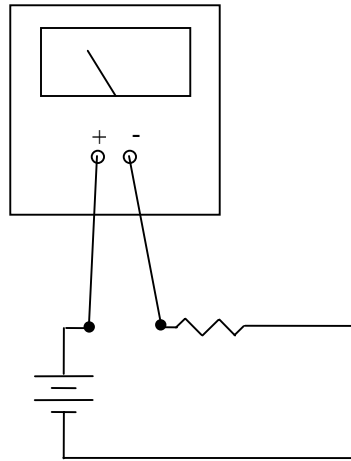

Figure 4: To make a measurement of the current drawn by a circuit, the meter must be placed in series with the circuit
In contrast to making voltage measurements, for which the multimeter was connected in parallel with the circuit, current measurements require the meter to be placed in series with the circuit. This is diagrammed below in Figure 4.
Notice in Figure 4 that the portion of the circuit between the two probes has been removed. The idea is to make the current flow through the meter so it can be measured, and then return it to the circuit. For DC current measurements, the placement of the probes must follow the same rules as for DC voltage measurement. For AC current measurements the placement of the probes does not matter.
To measure the (DC) current drawn by the bulb first set the multimeter to measure DC current by pressing the appropriate button. Next, connect the circuit to the multimeter which as mentioned above must be made in series. As in the voltage measurement, a BNC cable with a clip to BNC adaptor on one end BNC to dual banana adaptor on the other can be used to connect the bulb to the multimeter. Instead of placing the clips on either side of the bulb they must be placed on the same side, but without any wire from the circuit in between them. In written form, this description sounds awkward; however if you look at Figure 4, you should be able to interpret its meaning unambiguously. The ground plug on the dual banana connector should be connected to the same socket as when measuring voltage; however, the other plug should be plugged into the socket labeled "I," for current.